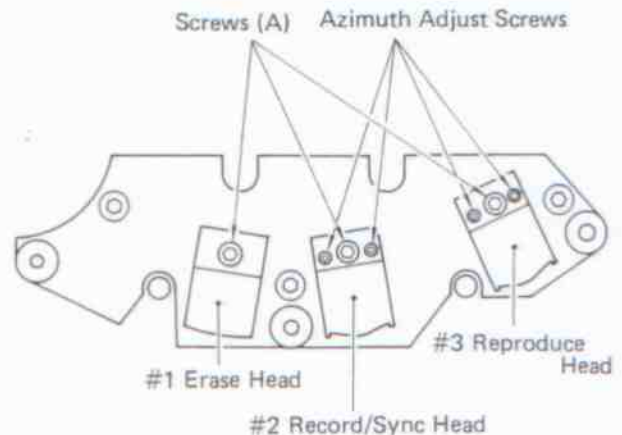

Fig. 7-6-4. Head Adjustment Screws
3. While observing the VU meters, temporarily increase the back tension to the left reel by lightly applying pressure by hand. If sufficient contact pressure is applied to the head while the tape is running, no change will be noticed on any meters when the back tension is increased. However, if insufficient pressure is applied to the head, the deflection needle will show increased deflection due to contact pressure caused by the back tension. This method will help determine whether head contact is properly adjusted or not. To adjust, loosen the retaining screws (A), that'll be the center screw at the rear of the head as shown in Fig. 7-6-4. Then, change the direction of the head for proper alignment.